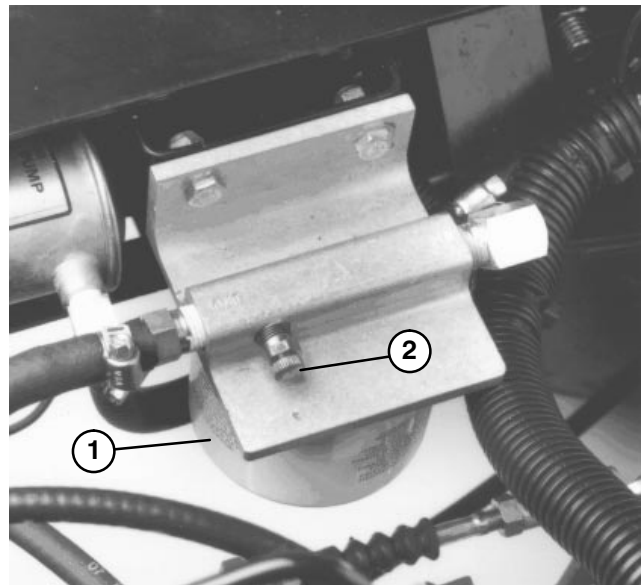

Figure 24
1. Loosen air bleed screw on top of fuel filter/water separator (Fig. 24).